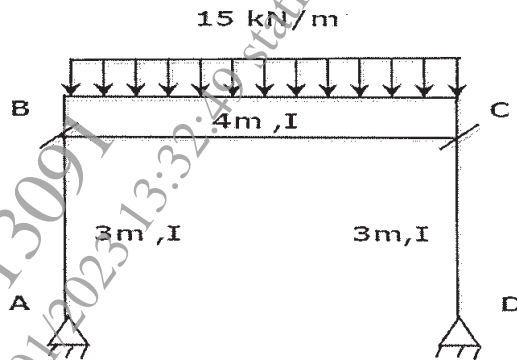

Figure 3
- Q2) a) Analyse the frame shown in figure 3 by slope deflection method and draw BMD. Assume uniform flexural rigidity. [12]